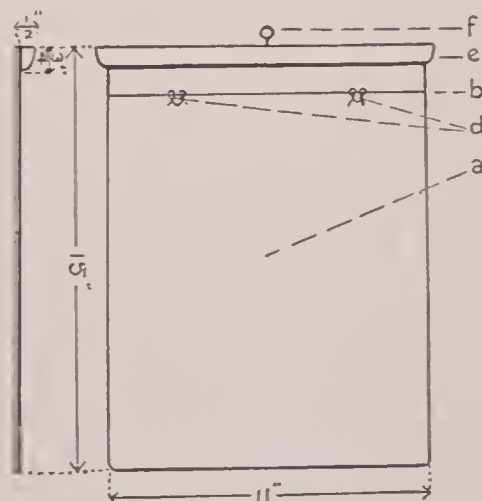

Fig. 1
**A REMINDER BOARD.** From stock a half-inch thick get out a board of the required size. The width should be about two and a half inches; the length as many times three-eighths of an inch as there are articles to be remembered, plus an inch more at top and bottom. Top and bottom should be cut to some acceptable ornamental form, such for example as shown in Fig. 1. Print neatly the names of the articles required, and bore a small hole after each. In these holes pegs or pins may be thrust whenever it is discovered that the supply of these articles is running low, that one may not forget to order them. The pegs or pins may be kept in a little box near the Reminder Board. A more elaborate form is shown in Fig. 2, where a box for the pegs forms a part of the design.
First, make the Bulletin Board, according to the diagram (Fig. 1); *a* is a piece of photograph mounting board; *b* is a piece of fine wire stretched across this, with the ends twisted together at the back; *c* is a device for holding paper (the "Niagara clip"). Two of these placed on the wire as at *d* hold the pictures, which can easily be changed; *e* is a strip of white wood, to the back of which *a* is tacked, and *f* is a small screw-eye by which the Board is hung on a hook. Of course Boards may be made of different sizes, one for narrow, long pictures, another for wide horizontal ones. A gray-green board is a good background. The wood strip should be stained dark and rubbed to a dull finish with shellac.